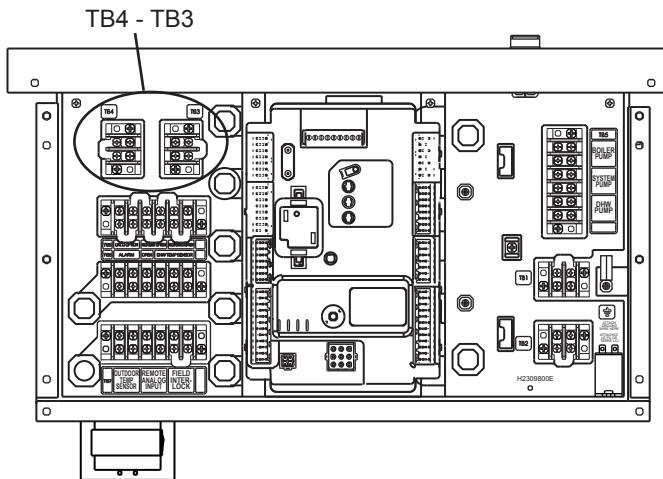

Fig. B1-4 - Check for 24V AC between TB4 and TB3
8. Check for 24V AC between terminal blocks TB-3 and TB-4. See Fig. B1-4. If 24V AC is present here, this means that the unit is getting line voltage, and the main power switch and transformer are working correctly.